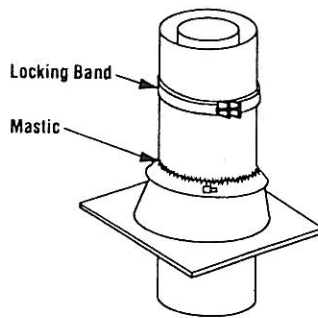

Figure 31
**Step 8.** The standard Superior roof flashing assemblies include a storm collar. Slide storm collar over outer chimney, align with top surface of flashing, insert tab in slot, pull tight and bend tab back over slot. Seal storm collar to outer chimney with roof caulking or mastic around entire circumference of pipe. Also add extra roof caulking where storm collar meets flashing and to the tab/slot area to seal completely against water penetration (Figure 31). Check all joints very carefully to ensure no water intrusion can take place.